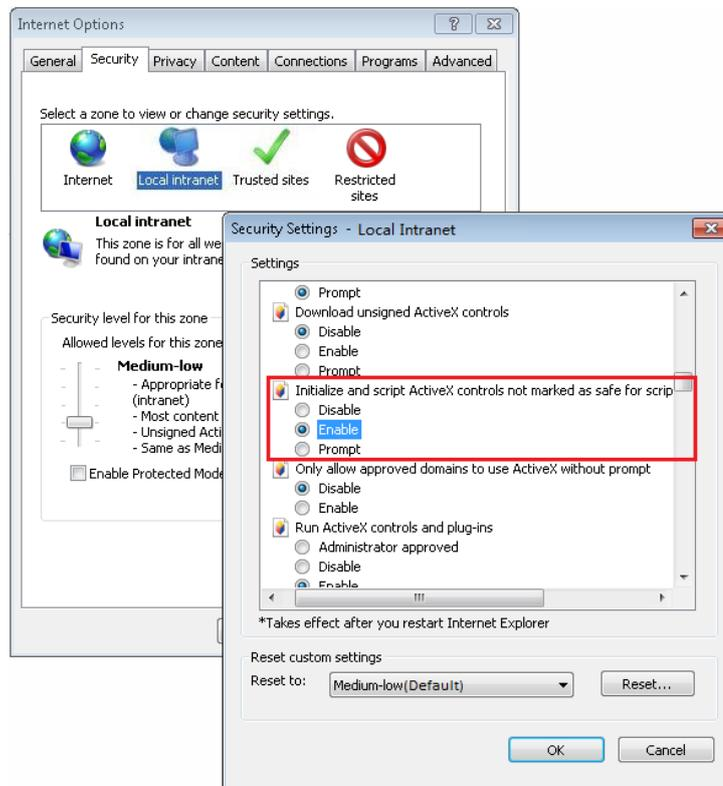

Figure 6-7 Enabling ActiveX controls
5. In the window shown in Figure 6-7, set **Enable** for **Initialize and script ActiveX controls not marked as safe for scripting**.